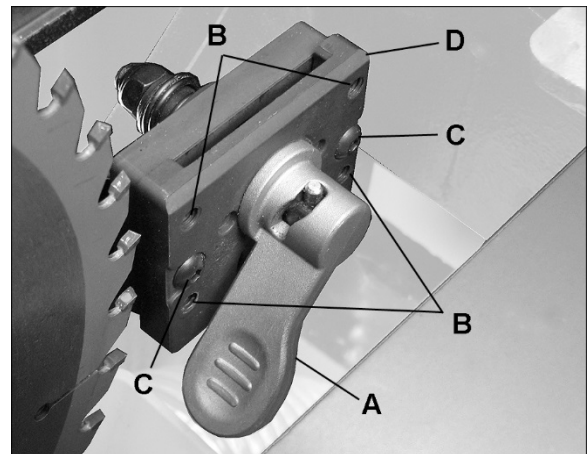

Figure 8-7
4. Pull up lever (A, Figure 8-7) and remove riving knife, making note as to which direction riving knife needs to be moved to align it with saw blade.
5. Use 3mm hex key to make adjustments to four set screws (B, Figure 8-7). Adjust any of the set screws required to bring riving knife in alignment with saw blade.
6. Reinsert riving knife, secure by tightening lever (A) and check alignment per step 2.
3. Use 3mm hex key to loosen two socket head button screws (C, Figure 8-7). This will allow the clamp plate (D) to slide back and forth on the fixed base.